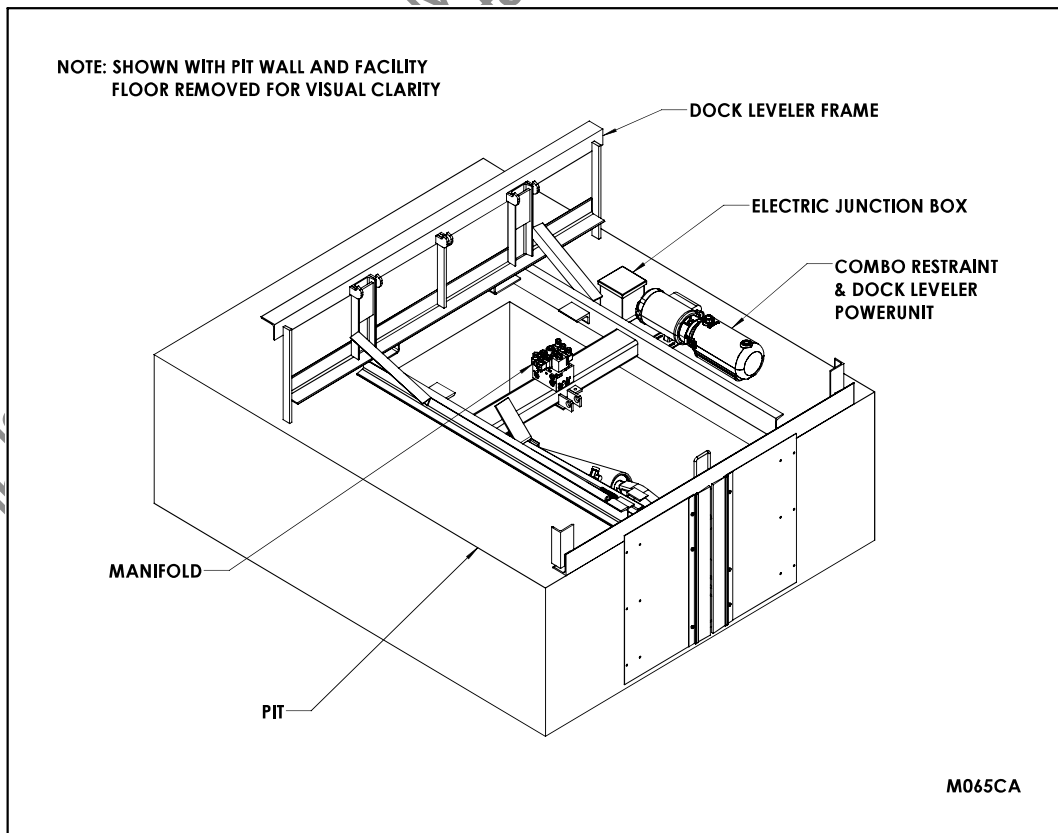

Figure 8: Power Unit and Junction Box
10. \_\_\_ Mount power unit and the signal junction box (by others) in the pit (See Figure 8: Power Unit and Junction Box). Ensure that these components are mounted in a location which ensures they will not make contact with the dock leveler but are close enough to the vehicle restraint to allow the pre-wired proximity and pressure switches to reach the junction box. It is recommended to locate the components toward the rear of the dock leveler pit. This accommodates the fact that the dock leveler deck assembly will move below floor level during operation. Note: The control panel and the power unit are to be located in an area that is clean, dry, and free from exposure to liquids and excessive debris and external weather.